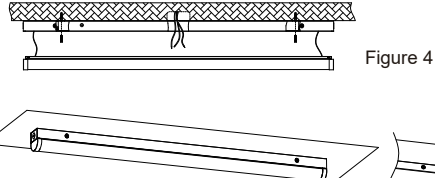

Figure 4
- Step4. Lead the wire into the lamp and install the lamp chassis by using the screws in the accessory kit (figure 4)